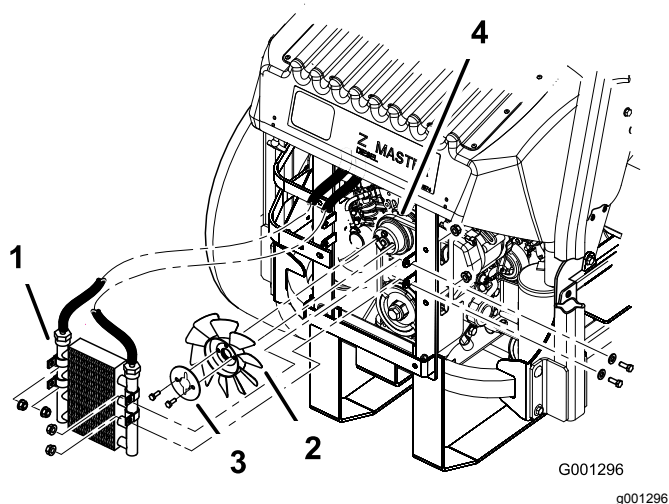

Figure 79
5. Remove the 4 bolts holding the oil cooler and position the oil cooler to the side (Figure 79).
6. Remove the 2 bolts holding the fan and fan plate to the machine (Figure 79).
10. Install the fan and fan plate to the machine with the 2 bolts previously removed (Figure 79).
11. Install the oil cooler with the 4 bolts previously removed (Figure 79).